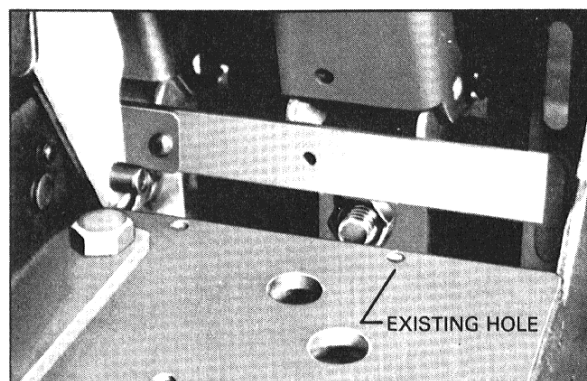

Fig. 5 Location of Existing Hole for Actuator
1. Scribe a line on the right hand side of breaker platform, parallel to front, and 3" from existing .312-18 tapped hole, Fig. 5.